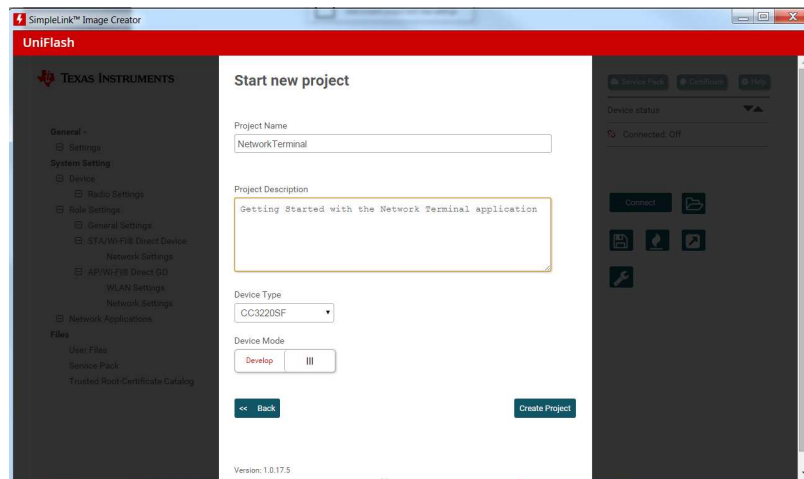

Figure 3-8. Create Project
- Fill all the necessary fields properly. Make sure to select the correct device type (CC3220 for CC3220 and CC3220S device, CC3220SF for CC3220SF device) and click on Create Project, as shown in Figure 3-8.